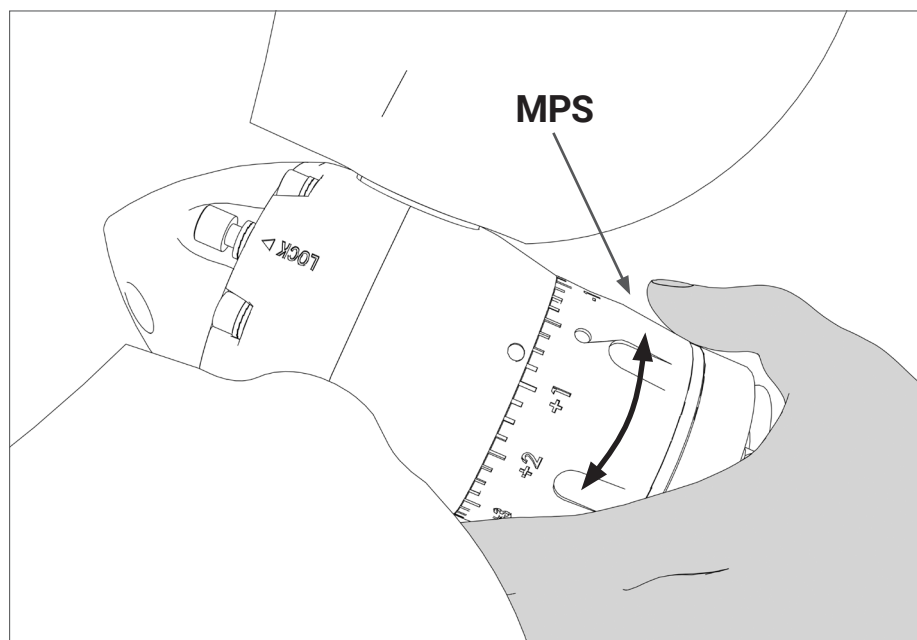

FIG. 25 Pitch adjustment
- To adjust the pitch at the desired value, turn the ring nut while precisely aligning the selected notch with the symbol "O" on the propeller body (**Fig. 25**).